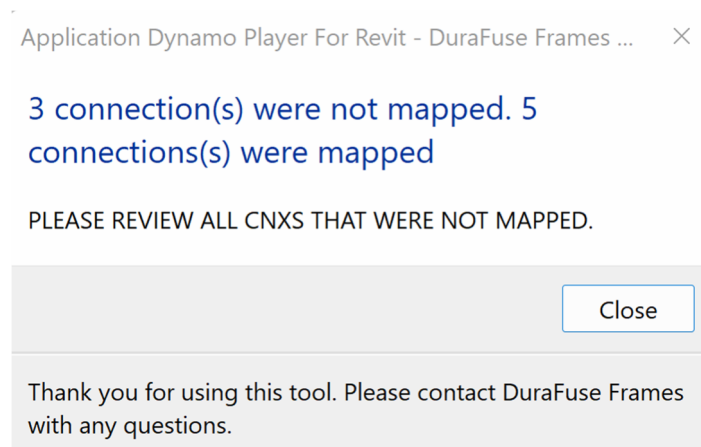
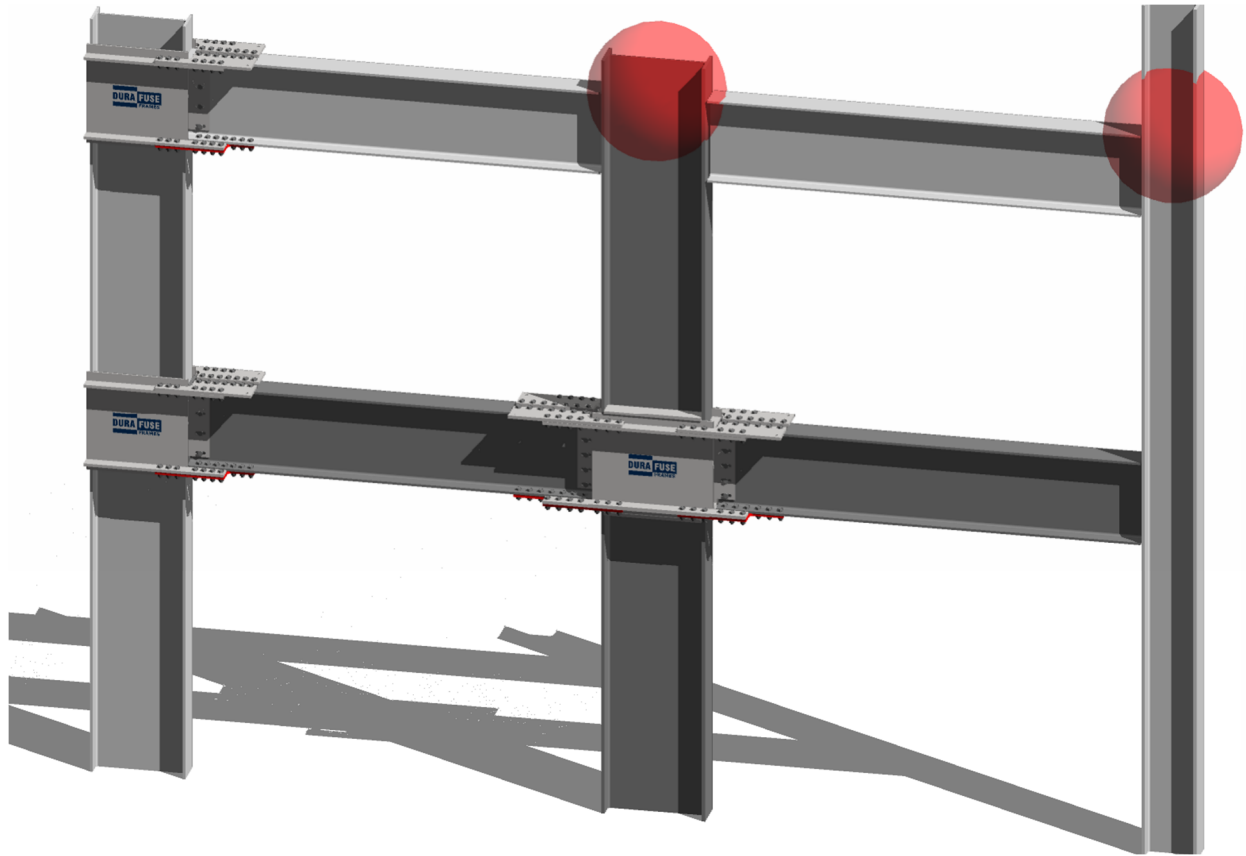
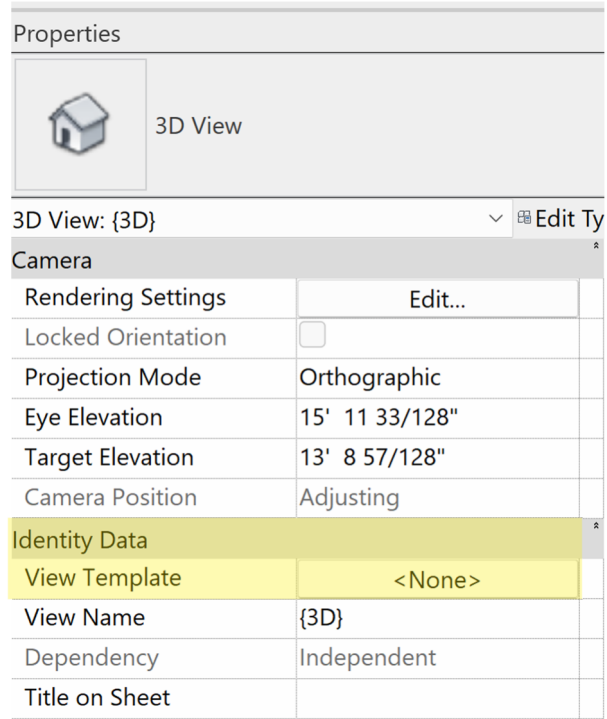

Figure 4-5. Mapped Connection Notification
Figure 4-6. Un-mapped Connections Indicated by Red Sphere
Figure 4-7. Remove Applied Template
6. Once the dynamo player completes, a message box will appear in Revit, indicating how many connections were mapped correctly and how many were not mapped (see Figure 4-5). The un-mapped connections will also display in the model with a red sphere (see Figure 4-6). Un-mapped connections are those that have modelling errors. These errors can include the following:
8. If unmapped connections shown with the red sphere, are not actually red, some of the visual settings may not be correct. The family may also not appear as it does in Figure 4-6. To fix this, remove the applied template by navigating to the Properties menu, to the **Identity Data** section and under **View Template**, select **None** (see Figure 4-7). This will remove any template settings, which will display the sphere and the family appropriately.